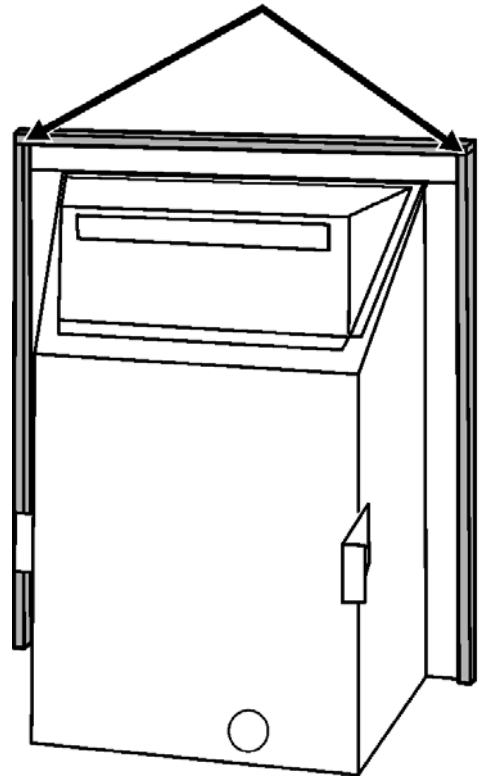

Figure 16. Fitting the foam seal
9. There is a length of self adhesive foam seal supplied with the fire. This will need to be fitted to the outer rear edges of the side and top flanges of the convector box. Cut a 485mm length of foam seal. Be careful not to stretch the seal when measuring. Remove the protective backing from the foam seal and fit this to the rear of the top flange (See figure 16). Cut two 580mm lengths. Fit these to the rear outer edges of the side flanges. Ensure that there is no gap between the foam seals where they meet at the top flange (See figure 16).